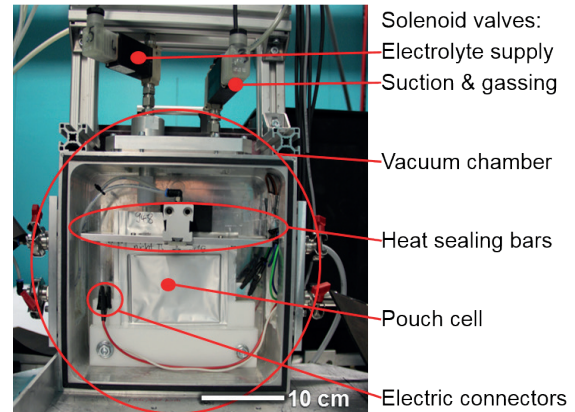

Fig. 1 Section of the filling station at the neutron radiography instrument ANTARES of MLZ. Ref: Günter et.al.
The electrolyte filling process was studied using pouch bag cells with Neutron Radiography (NR) on the ANTARES instrument at MLZ (Fig. 1). The flow of the liquid as it filled the cell was visualised over time.